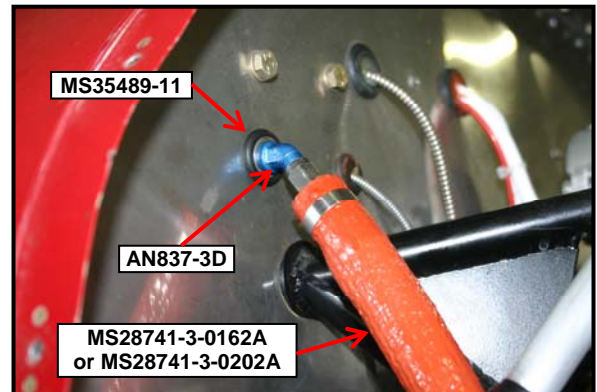

Figure 7 - Analog Gauge Firewall Hardware
16. Remove the synthetic rubber grommet from the firewall and replace it with a larger internal diameter grommet (MS35489-11). Install the 45° bulkhead fitting (AN837-3D) in the grommet with the 45 bend forward of the firewall (see Figure 7). Attach the bulkhead nut (AN924-3D) aft of the firewall but do not tighten yet.